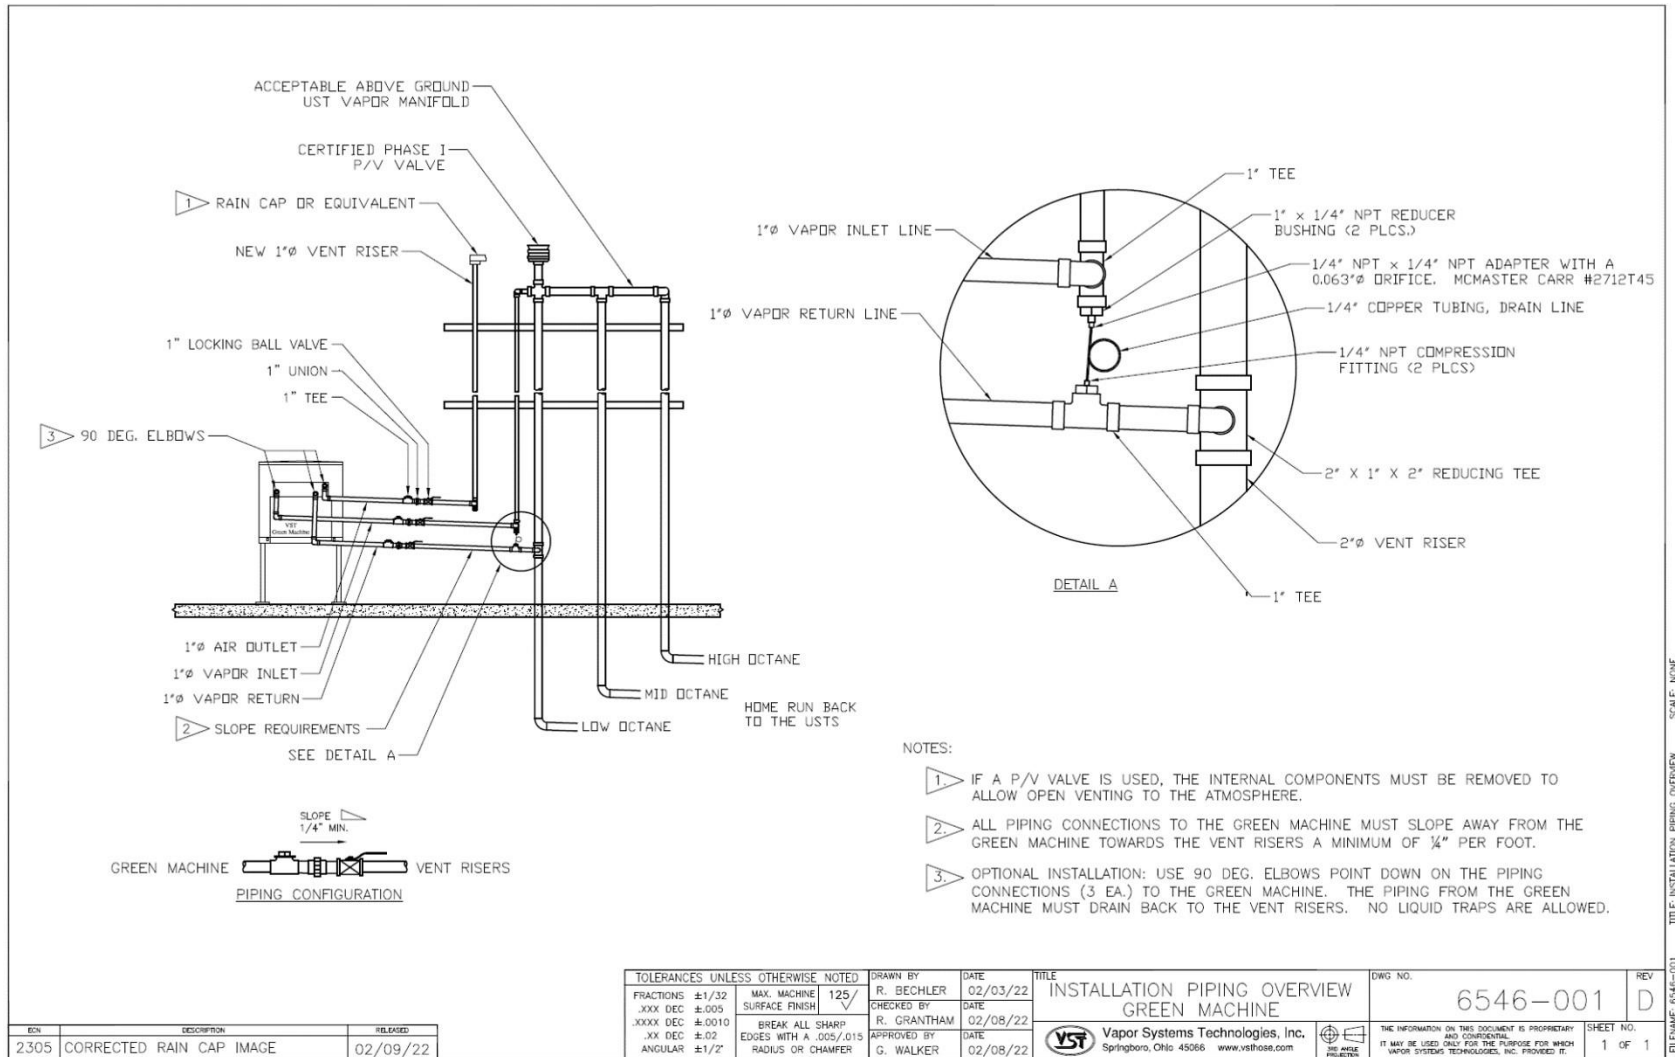

Figure 2-1: Vapor Piping Overview
- There are 3 piping connections to be made to the GREEN MACHINE. **See Figures 2-1 & 2-2:**
- The 1/4" diameter drain line with the supplied adapter must be installed per **Figure 2-1**.
- Install a 1" vapor inlet pipe and a 1" vapor return pipe as shown in **Figure 2-1** from the vapor inlet and vapor return connections on the GREEN MACHINE to an existing vent riser.
**See Figure 2-1.**
- The 1" piping must slope away from the GREEN MACHINE a minimum of ¼" per foot. **See Figure 2-1.**
- From the vent riser, install the 1" locking ball valve, then the 1" union, then the 1" tee as shown in **Figure 2-1.**
- The ¼" diameter drain line with the supplied adapter must be installed per **Figure 2-1.**